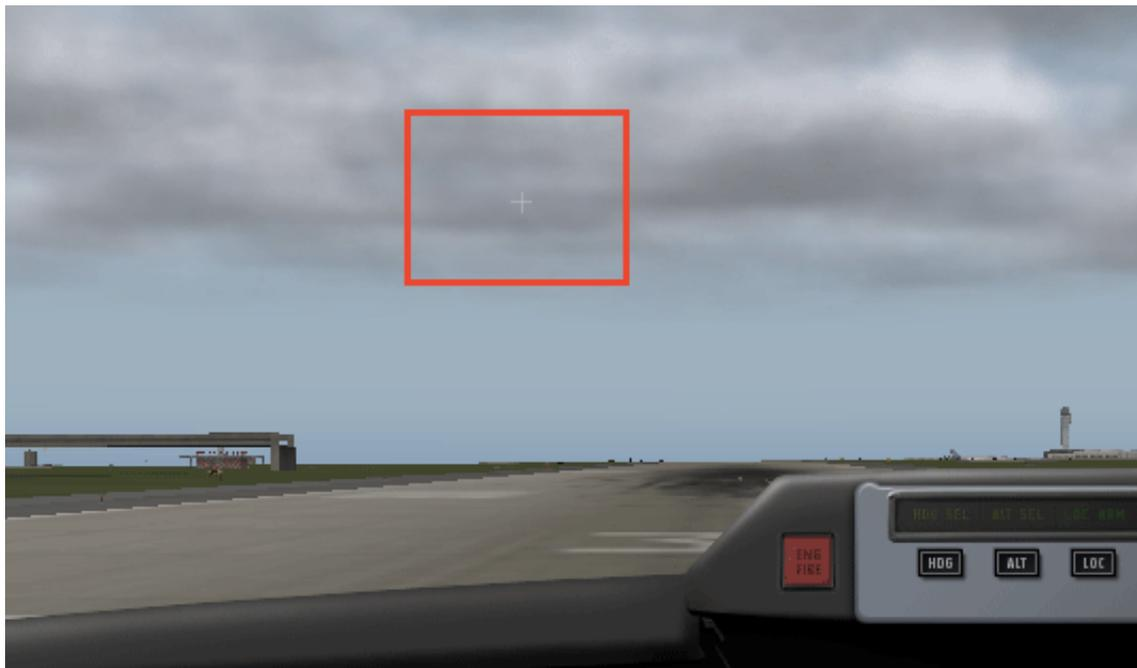

Figure 2.11: The airspeed indicator in the Cessna 172
4. Watch your airspeed indicator (seen in Figure 2.11), and when it hits 60 knots, pull back slightly to get the plane off the ground.